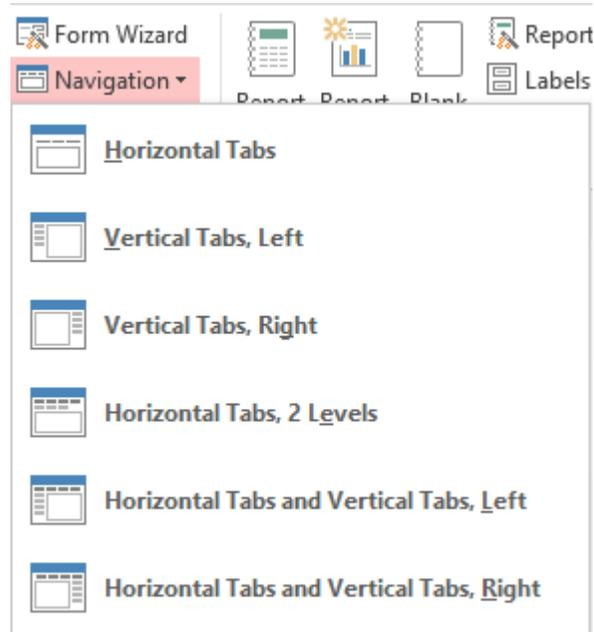

Figure 14: Navigation Templates in the **Create** → **Navigation** menu
1. View Navigation Form Templates: Click **Create** → **Navigation** in the Forms group to see the prebuilt navigation form templates (Figure 14). Access provides navigation forms with horizontal tabs, vertical tabs (left or right), multiple-level horizontal tabs, and mixed horizontal and vertical tabs.